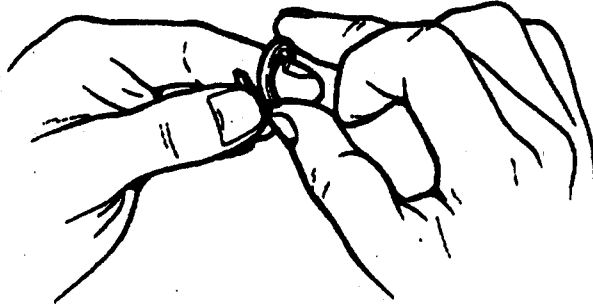

Figure 52.
1. Wind the PTFE piston ring around your finger as shown in Figure 52 so that the seal forms a "coil."